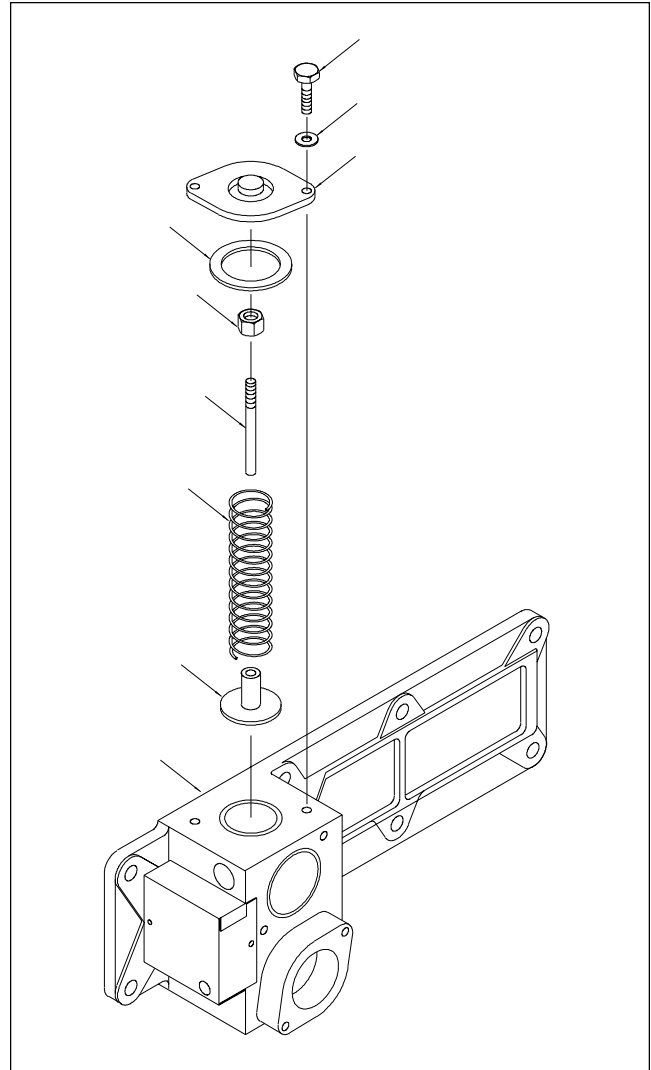

Figure 13. Flow Control Valve
2. Remove the cap from the flow control valve (see Fig 13).